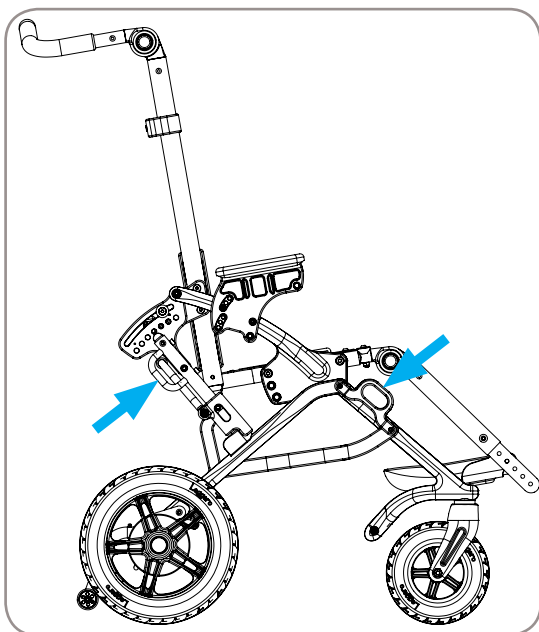

Figure 30
- For approved transit tie-down locations and location of belt/harness attachment pin, see Figures 30 and 31.